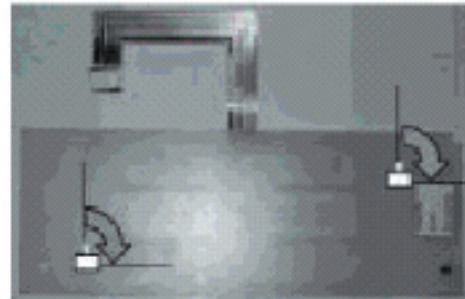

Fig. 8-4
8. Insert the tabs into the backer plate and lock the membrane switch to the console by turning the tabs 90 degrees. (Fig. 8-4)